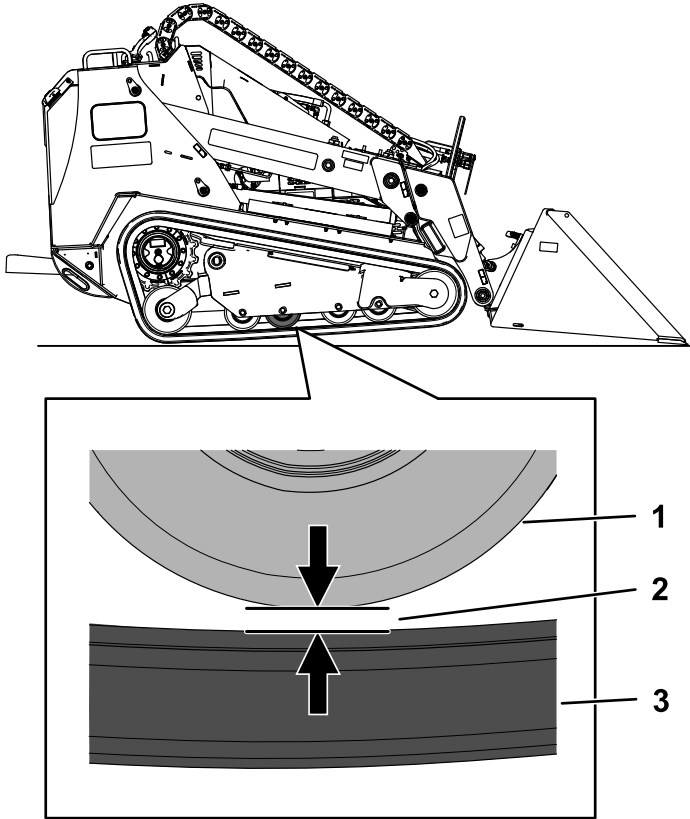

Figure 67
4. Verify that the gap between the 2nd road wheel from the rear and the track is 20 mm (0.8 inch) as shown in Figure 67. If adjustment is needed, proceed to Adjusting the Track Tension \(page 43\)
7. Using a 1/2 inch drive ratchet, turn the tensioning screw until the gap between the road wheel and track is 20 mm (0.79 inch) as shown in Figure 67.
10. Using a 1/2 inch drive ratchet, turn the tensioning screw until the gap between the road wheel and track is 20 mm (0.79 inch) as shown in Figure 67.